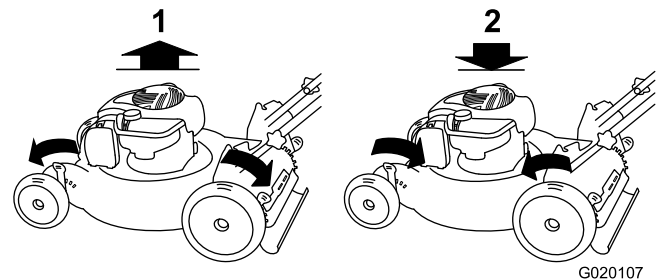
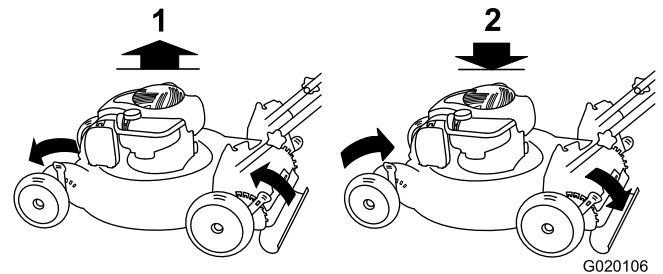

Figure 9
Figure 10
**Note:** To raise or lower the machine, move the cutting-height levers as shown in Figure 9 for Model 10630 or Figure 10 for Model 10632.